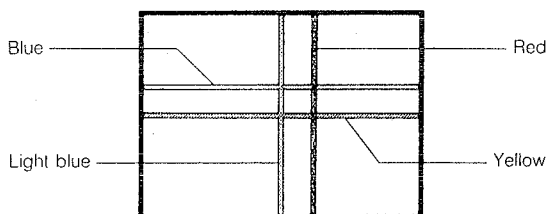

Fig. 2 Horizontally and vertically misaligned
- 4** If you see separate colored lines, use the R/B, ◀, ▶, ▲, and ▼ keys on the remote control unit to make the red and blue lines disappear into the other lines. Each time the R/B key is pressed, the line (red or blue) to be controlled changes alternately. Pressing the ◀ key moves the vertical line to the left, while pressing the ▶ key moves the vertical line to the right. Pressing the ▲ key moves the horizontal line upward, while pressing the ▼ key moves the horizontal line downward. In figure 2, for example, press the R/B key to control the red line, and then press the ◀ key so that the red line converges. Press the R/B key again to control the blue line, and then press the ▼ key so that the blue line converges. Convergence is correct when all three colors (red, green, and blue) converge, producing single white lines.